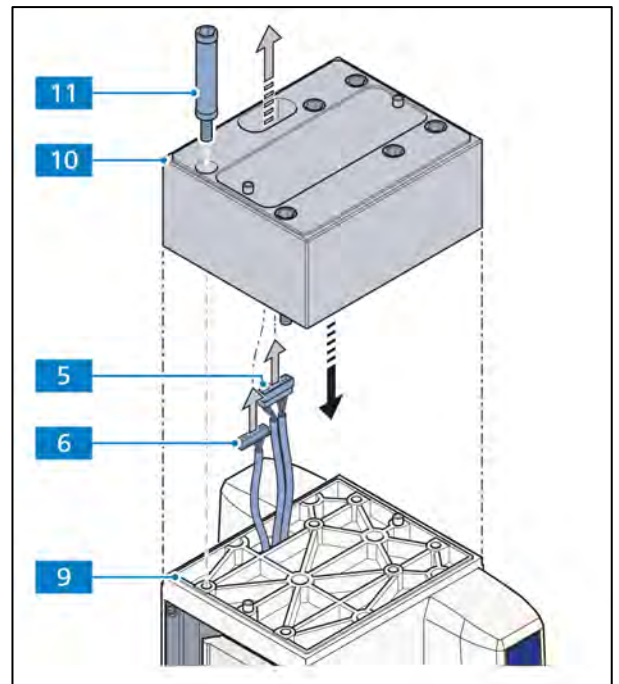

Fig. 3-56 Mounting the sample space extension
- Carefully, thread the cables (Fig. 3-56/5 and 6) from the bottom through the long hole of the sample space extension (Fig. 3-56/10).
- Place the sample space extension on the lower stand part (Fig. 3-56/9) and tighten it with the 6 spacer bolts (Fig. 3-56/11) of the sample space extension.